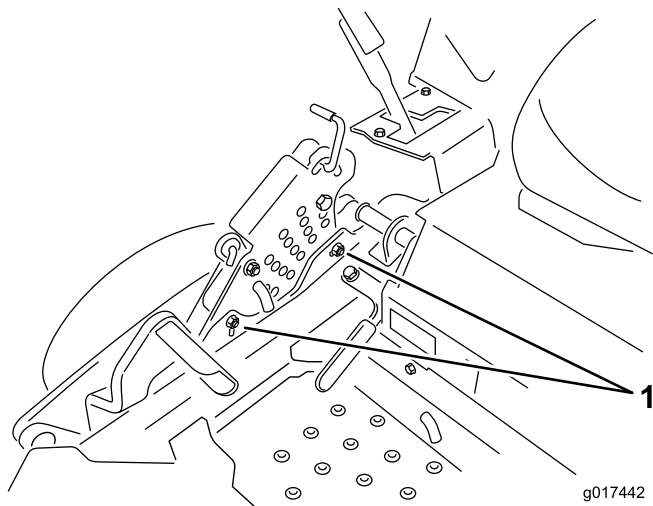

Figure 74
12. To adjust the single point system, loosen the 2 bolts at the bottom of the height-of-cut plate (Figure 74).
14. Tighten the 2 bolts at the bottom of the height-of-cut plate (Figure 74). T